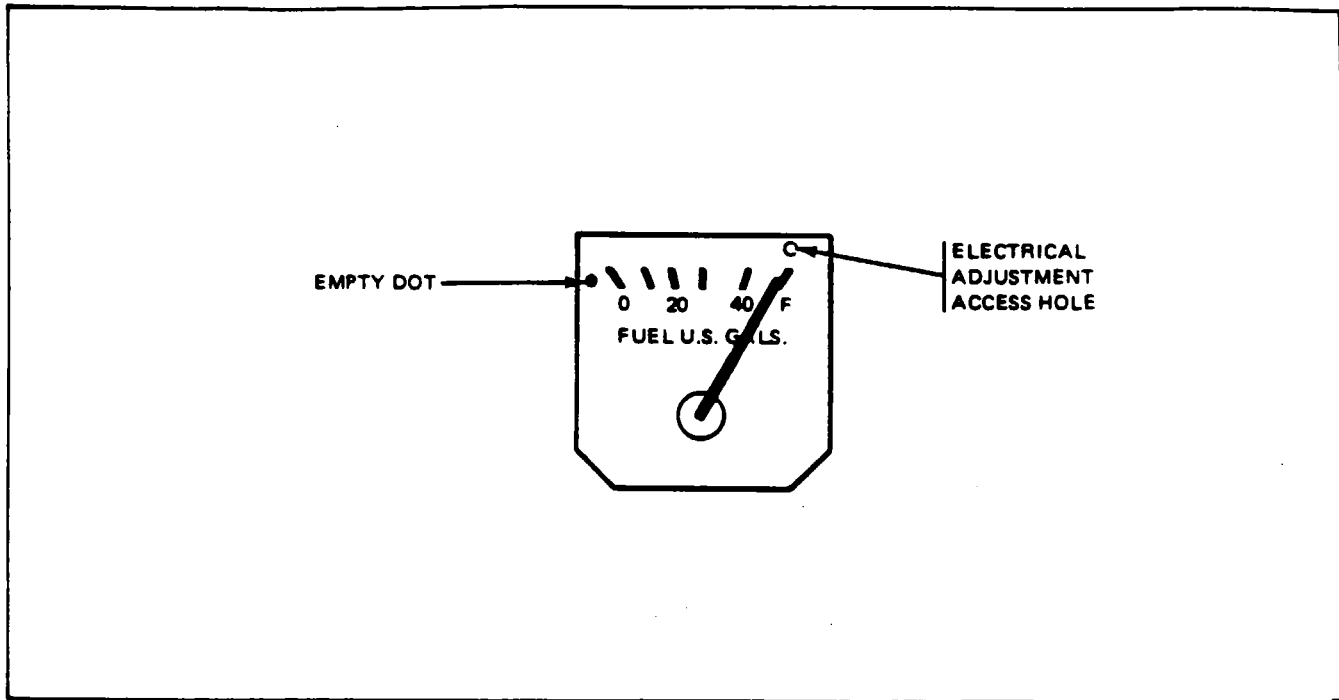

Figure 28-6. Fuel Gauge
9. With the tanks full and master switch "ON," the needle should be centered on the "F" radial mark within ± 1 needle width. If not within this tolerance, adjust the electrical adjustment (refer to Figure 28-6) just sufficiently to bring it within tolerance; do not center the needle.